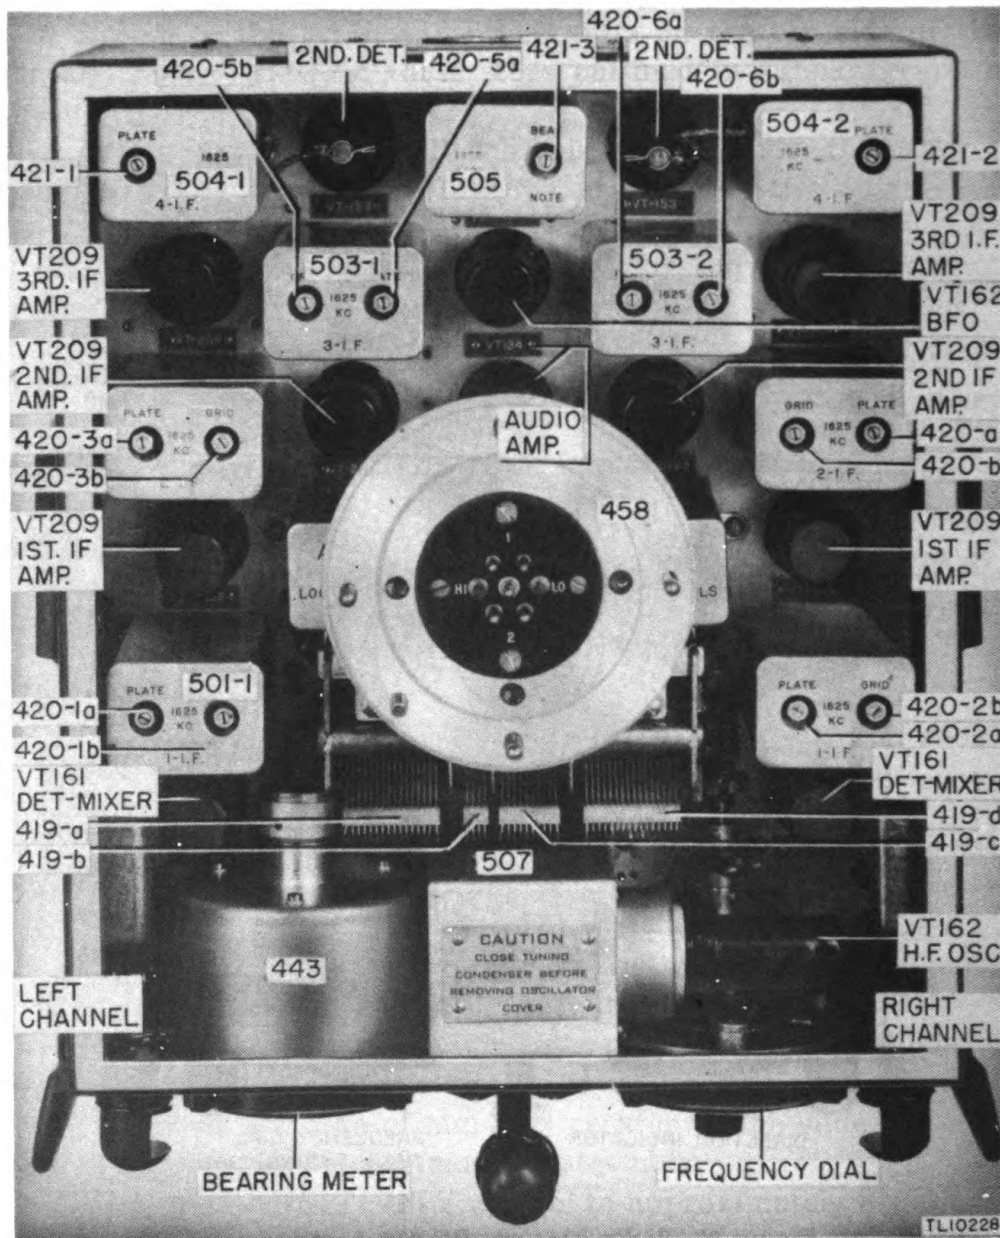

Figure 28. Radio Receiver BC-1003-A, top view.
- (12) Press the PRESS TO BALANCE control and adjust the generator output so that the pointer tips just come together on zero centerline.
- (13) Adjust i-f trimmers to obtain maximum pointer deflection in the corresponding channel, lowering the signal generator output, if necessary.
- (14) Rebalance, if necessary.
- (15) Repeat the adjustment using extreme care to obtain actual peak.
- (16) Check the perfection of alignment by turning the signal generator frequency dial slowly both above and below resonance. Observe the path followed by the intersection of the DIRECTION INDICATOR pointers. With the set balanced, this intersection should follow the 0° line exactly. If the path of the intersection wobbles sidewise, the alignment is not perfect. Repeat alignment operations and recheck alignment, if necessary.
- (17) When maximum perfection of alignment by peaking has been achieved, the final correction can be made by turning the frequency dial of the signal generator to the off resonance point at which the sidewise movement (wobble) of the pointer intersection was noted. Turn the plate trimmers of i-f transformers in the channel controlling the lower pointer until this pointer is equal in height to the opposite pointer.
- (18) Repeat the alignment and touch-up processes several times if necessary to achieve perfect alignment.
b. Alignment of Radio Receiver BC-1003-A (fig. 28).
(1) Remove loop, antenna handwheel, and top cover as outlined in paragraph 24a.
(2) Connect commutator prong terminals marked HI.
(3) Connect terminals marked LO.
(4) Set signal generator to 1,625 kc and check with frequency calibrator or frequency meter.
(5) Connect hot side of signal generator to HI terminal of commutator.
(6) Connect low side of signal generator to LO terminal of the commutator.
(7) Set the SENSITIVITY control to approximately 8½ on its scale.
(8) Set switches on front panel to the following positions: